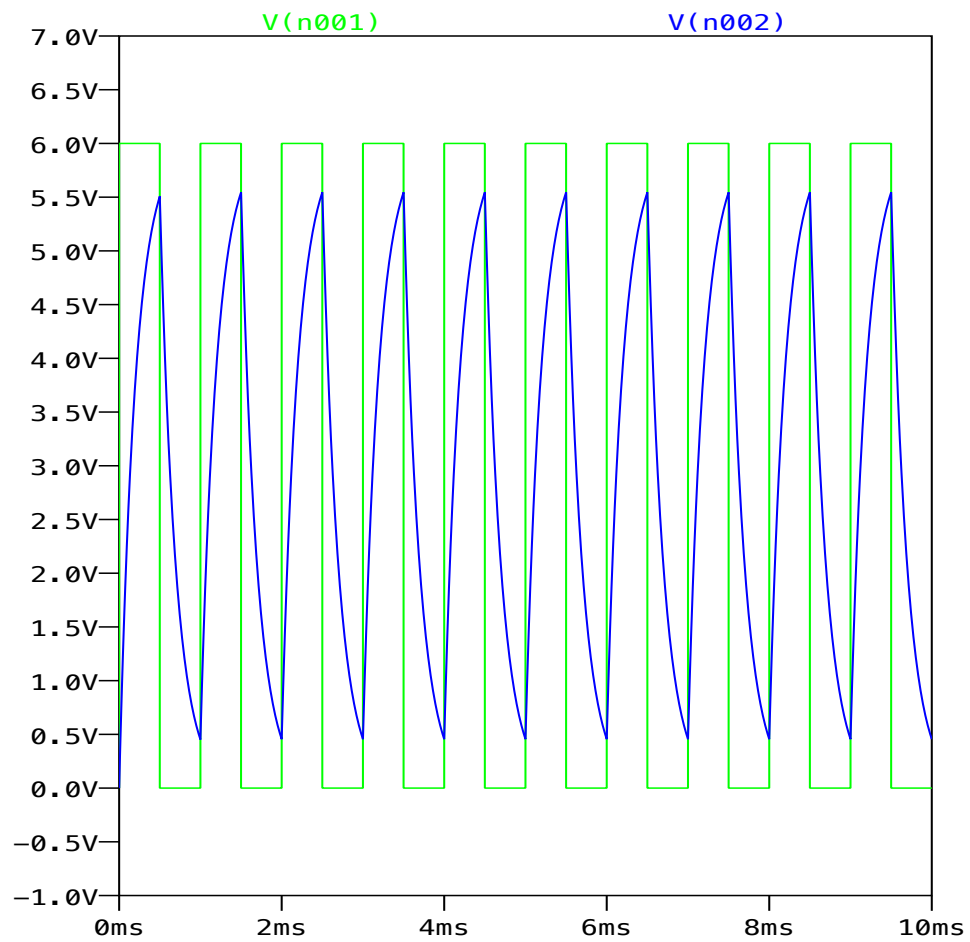

Figure 2: Square Wave input V(n001) and RC output V(n002)
2. From plotting window (which should come up immediately), select the Add Traces option. Add the trace for V(n001) and V(n002). You should see a plot that looks like Figure 2.
2. Using the square wave with DC offset from the function generator to create the periodic step function voltage shown as V(n001) in Figure 2. Note that the frequency of the AFG output is $\frac{1}{1\text{ms}} = 1000 \text{ Hz} = 1\text{kHz}$. Print and save the results (PR1).